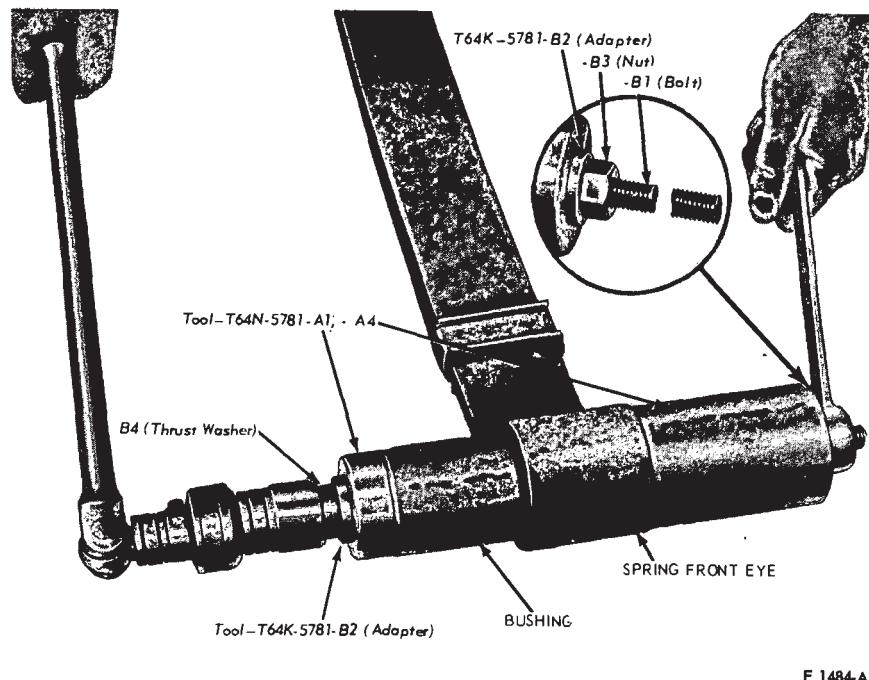

FIG. 13—Rear Spring Front Bushing Installation—Typical
- Assemble the bushing and the special tool combination to the spring front eye as shown in Fig. 13.